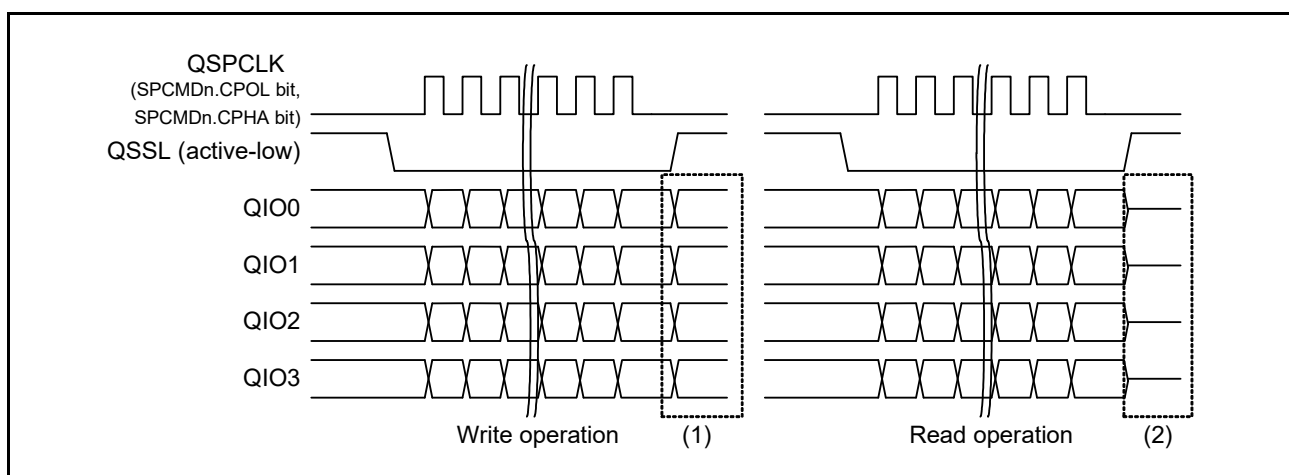

Figure 45.17 Example of Pin States after Quad-SPI Mode Transfer is Completed (n = 0 to 3)
During idle cycles in dual-/quad-SPI modes, the I/O pins are controlled differently depending on whether it is after write or read operation. The I/O pins output either the last output data or the fixed level depending on the register setting after write operation, whereas the I/O pins are driven to the Hi-Z state after read operation. Figure 45.17 shows an example of the pin states after quad-SPI mode access is completed. The following describes operations (1) and (2) in the figure.
- (1) During write operation, QIO0 to QIO3 serve as output pins. Thus, when QSSL is negated upon completion of write operation, QIO0 to QIO3 output different values depending on the value of SPPCR.MOIFE bit. The I/O pins output the level specified by the SPPCR.MOIFV bit when the SPPCR.MOIFE bit is 1, whereas the I/O pins output the last output data when SPPCR.MOIFE bit is 0.
- (2) During read operation, QIO0 to QIO3 serve as input pins. Thus, when QSSL is negated upon completion of read operation, QIO0 to QIO3 are driven to Hi-Z state irrespective of the values of SPPCR.MOIFE and SPPCR.MOIFV bits. In dual-/quad-SPI read operations, receive operation is continued as long as the receive buffer has an enough space for the receive data. To terminate read operation, set the SPCR.SPE bit to 0 after receiving the required length of data, or execute write operation for the last sequence to empty the transmit buffer.